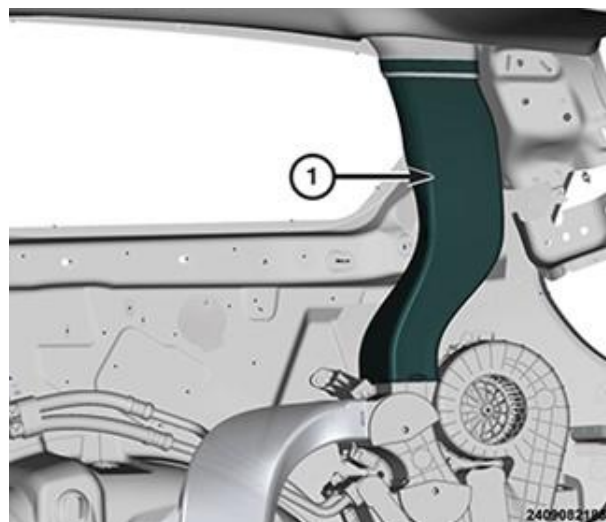

Figure 15 – Ceiling Distribution Duct
- 36. Pull the bottom end of the rear ceiling distribution duct away from the rear HVAC housing and disengage the duct from the duct located in the headliner (Figure 15).
- 37. Remove the rear ceiling distribution duct from the vehicle (Figure 15).